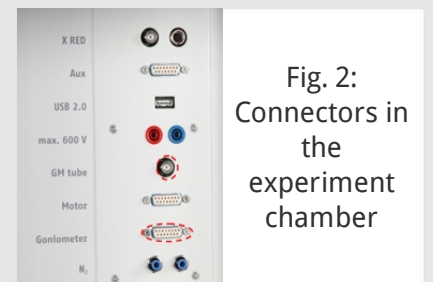

Fig. 2:
- Connect the signal and supply cables to the corresponding ports in the experiment chamber of the X-ray unit. In Figure 2, the port for the signal cable is marked in red and the port for the supply cable is marked in green. Connect the external X RED ports of the x-ray unit (see Fig. 3) to the multi-channel analyser (MCA). Connect the signal cable to the "Input" port and the supply cable to the "X-Ray Energy Det." port of the MCA.